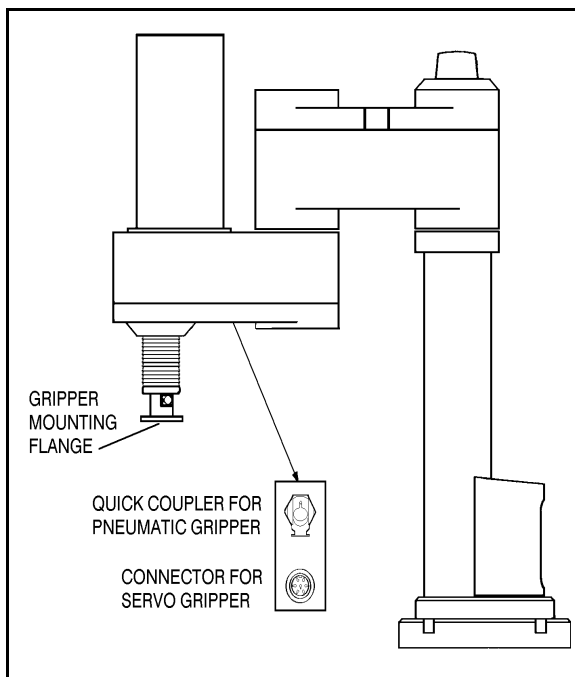

Figure 4-7: Gripper Connectors
2. Connect the coiled double hose from the gripper to the quick coupling on the underside of Link 2, as indicated in Figure 4-7.